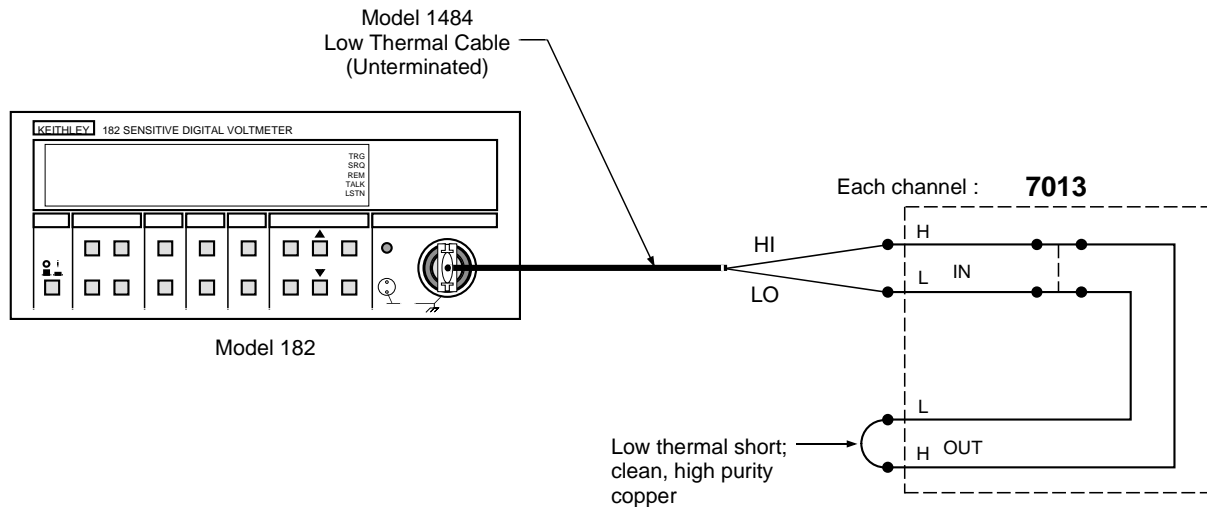

Figure 5-3
2. As shown in Figure 5-3, short output (OUT) high (H) to low (L) of Channel 1. The low thermal short must be clean high purity copper.